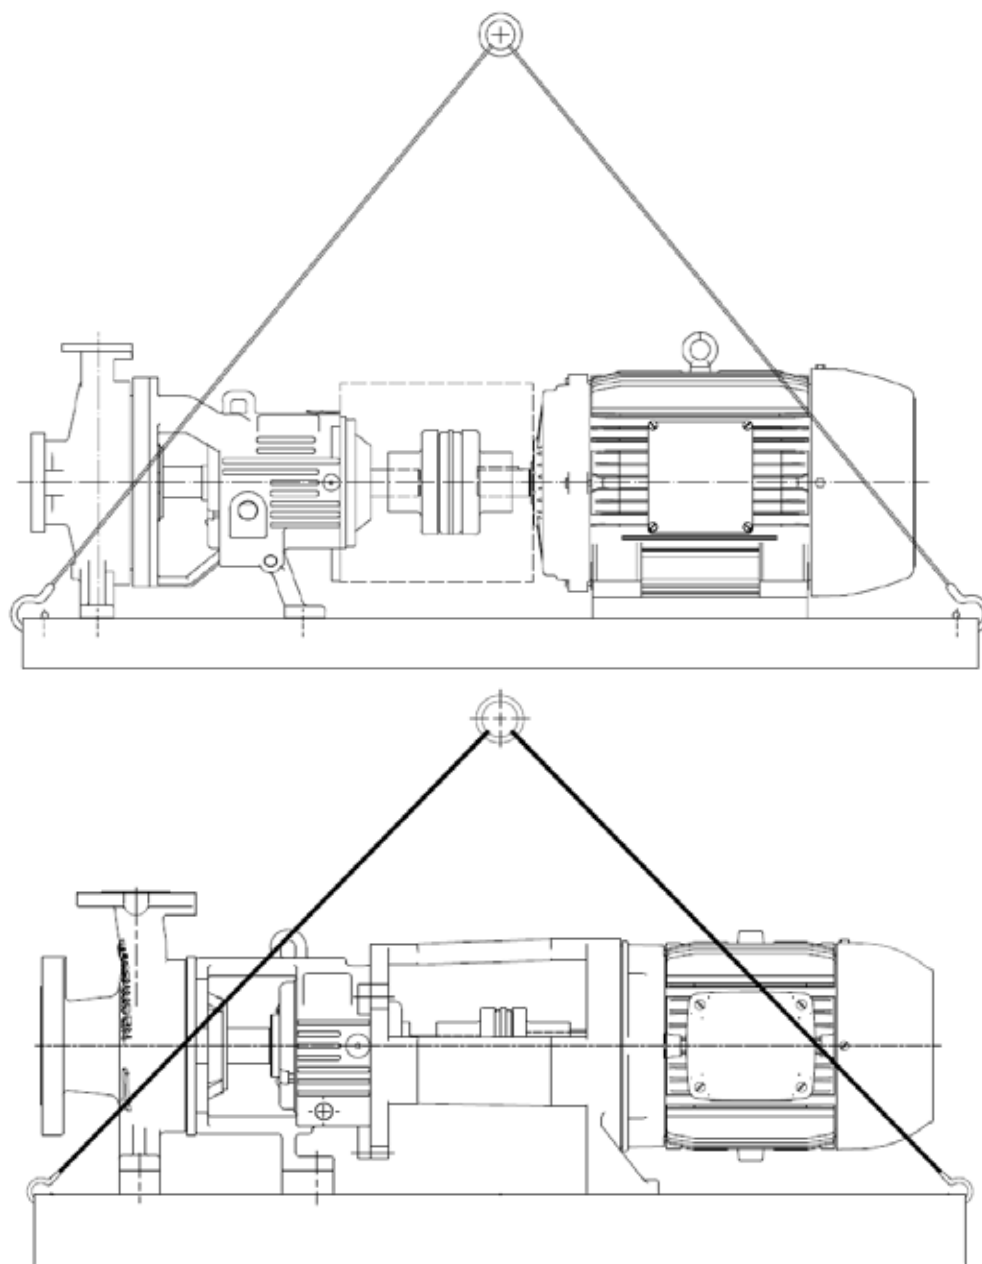

Figure 3.1. Correct position of the lifting ropes or chains, side view without and with C-Frame.
- When transporting with a crane, the rope should be slung round the unit as shown below in Figure 3.1.